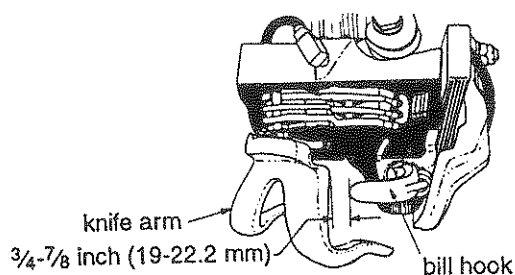

Fig. 27
2. The knife arm should be $\frac{3}{4}$ inch to $\frac{7}{8}$ inch past the end of the knotter bill hook when the knife arm is in the most extreme position, see Fig. 27. Correct the adjustment of the knife arm by replacing it.